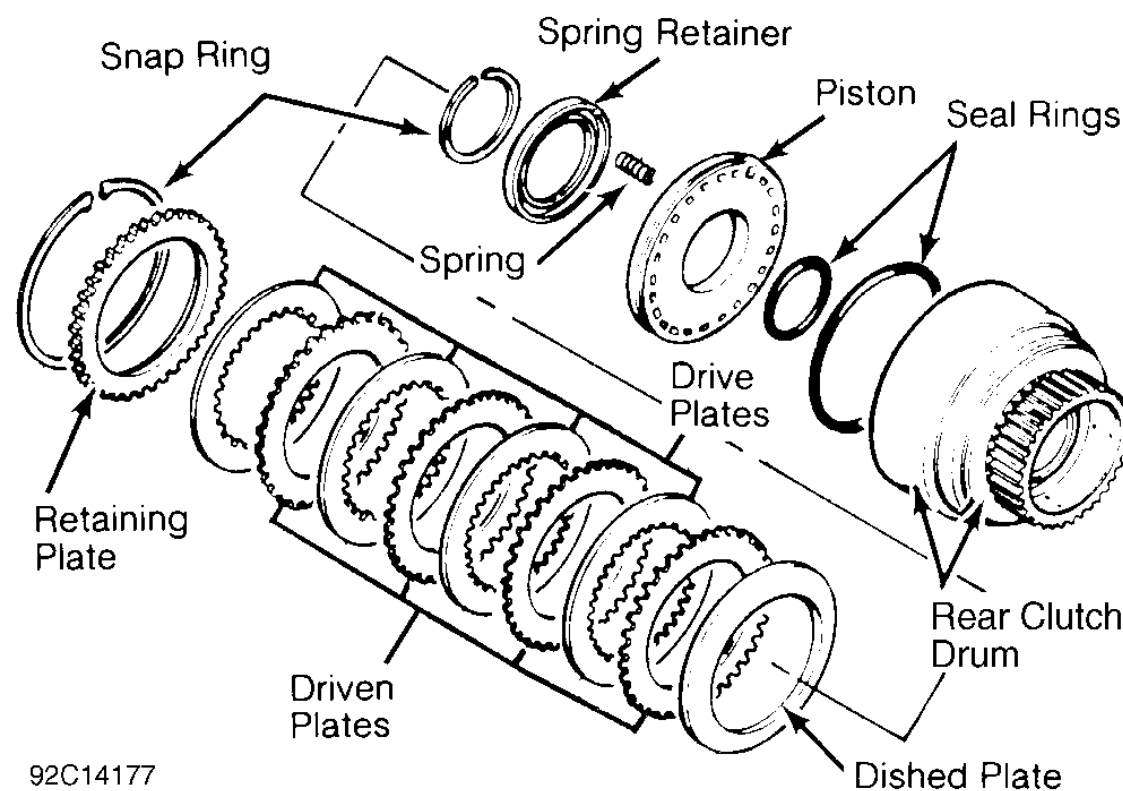

Fig. 21: Exploded View Of Rear Clutch
1. Remove large snap ring. Lift out retaining plate, clutch plates, and dished plate. See Fig. 21 . Using appropriate compressor, compress rear clutch spring retainer to remove small snap ring, spring retainer, and clutch return springs.
1. Install seal rings on piston and install in clutch drum by applying even pressure on perimeter of piston and rotate piston slowly. Install return springs and spring retainer. Press spring retainer. Install snap ring. Note direction of dished plate and install. Install driven and drive plates, retainer plate and snap ring. See Fig. 21 .